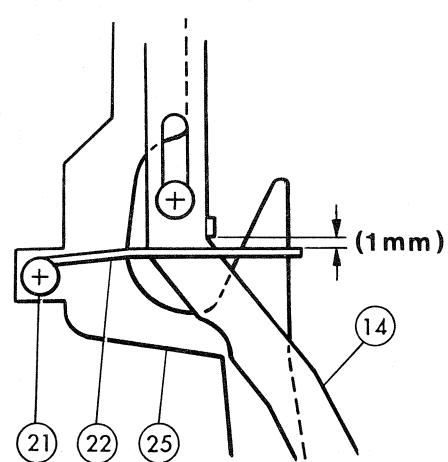

Fig.31
7. Install ⑳ by turning ⑯, so that ⑮ comes at the lowest position when the knob main is set to OFF.
8. See to it that ⑳ activates smoothly due to the spring tension of ⑪.
9. After carrying out the above adjustments, measure the spring tension of ⑦ and ⑩. (See Fig. 31.)
3. Unscrew ⑪ to remove ⑫ and ⑬.
4. Remove ⑯ and ⑰ to remove ⑭.
5. Unscrew ⑩, ⑪ and ⑫ to remove ⑪ and ⑫.
6. Remove ⑮.
7. Loosen ⑨ and remove ① from ⑧.
8. Unscrew ⑥ to remove ④ from the base main body.
9. Unscrew ⑦ to pull out ⑧.
10. Refer to Fig. 31 for further disassembly.
3. Adjust ⑫ by turning ⑬ so as to allow a gap of 1 mm as shown in Fig. 31. Furthermore, turn on the loop restorer several times to make sure that the position of ⑫ does not have a big change.
\* Measurement of spring tension of ②: Refer to Fig. 31, and measure the tension by using the bar spring scale (C043).